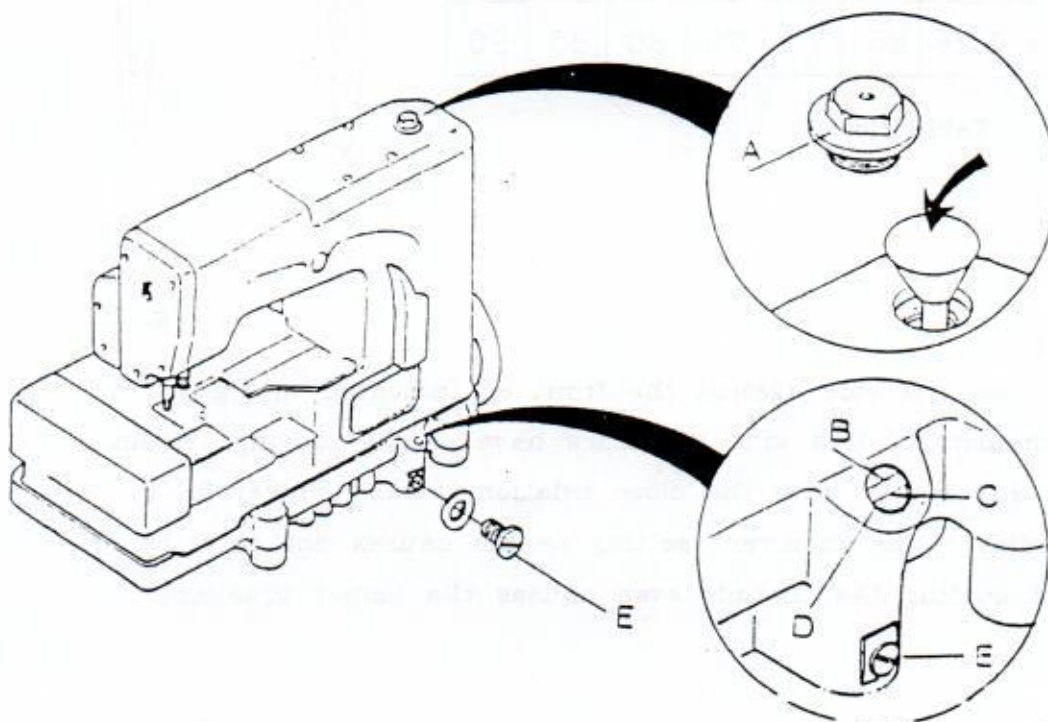

Fig 2.
- (1) Take out the siphone case and pour fresh oil until the oil level maintains between the red lines on the gauge in Fig 2.
- (2) Be sure to check that oil is splashing inside the siphone case and the lubrication is done completely.
Take out screw E and drain oil at the bottom of the oil pan in Fig 2.